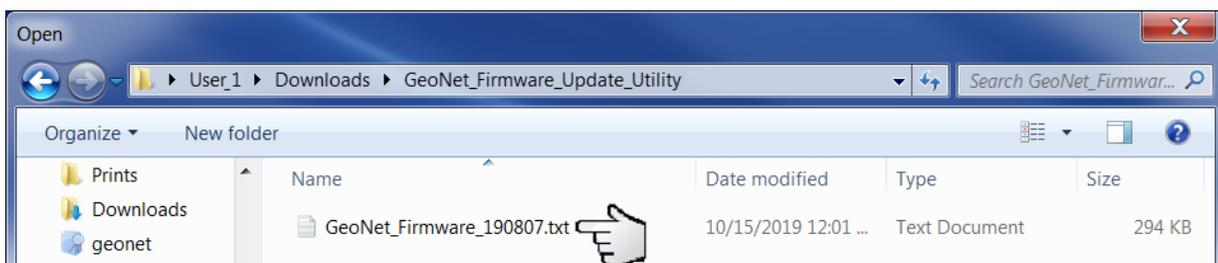

Figure 33 - Double Click on Firmware Text File
14) Double click on the .txt firmware file (Figure 33). (Firmware files are named in the following format: “GeoNet_Firmware_YYMMDD.txt”, where YY is the last two digits of the year, MM is the month, and DD is the day of the month.)